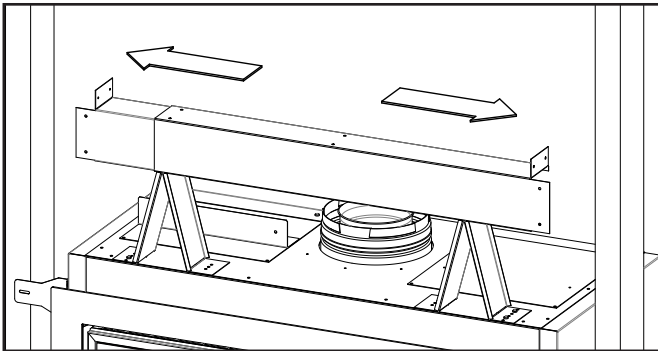

Figure 28: Steel Stud Placement
2. Place the steel stud onto the top standoffs and slide outwards until both ends make contact with the framing studs (see Figure 28).